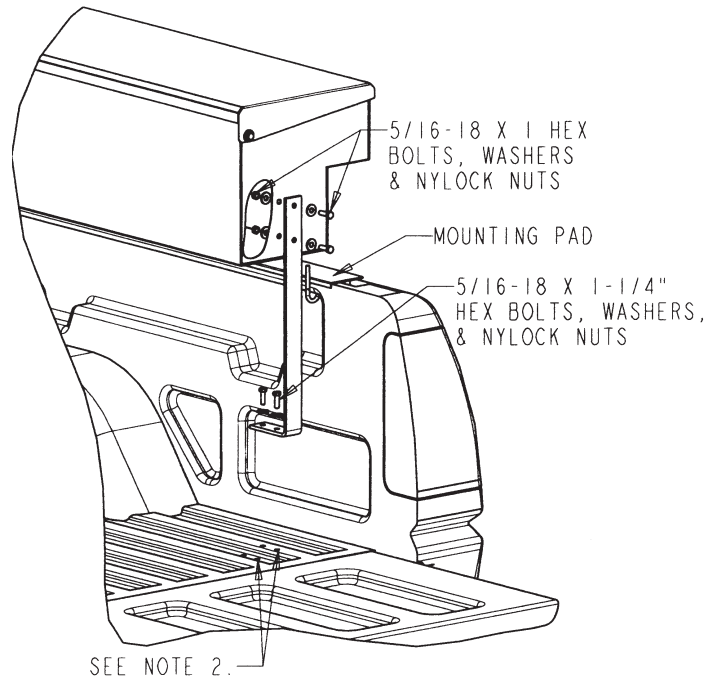

Fig. 1
- 2.** Place the mounting pad in position on the top of the truck fender as shown in Figure 1. You may want to tape the pad to the fender to keep it from moving during installation.